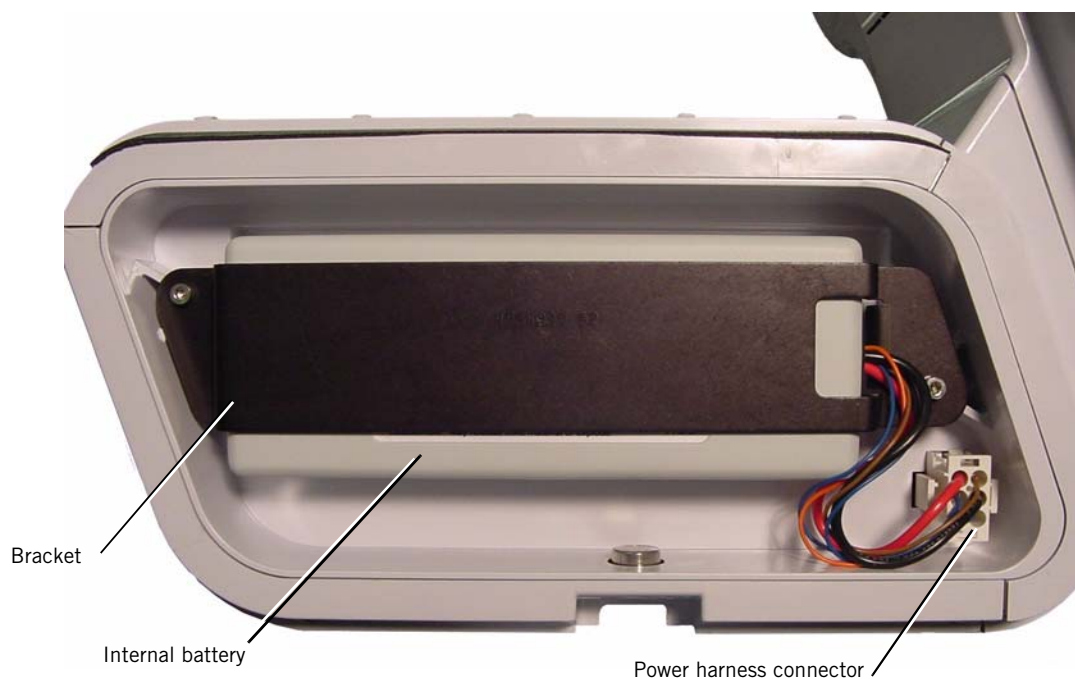

Figure 7-1: Disconnecting the Internal Battery
2. Disconnect the internal battery from the power harness connector (Figure 7-1).